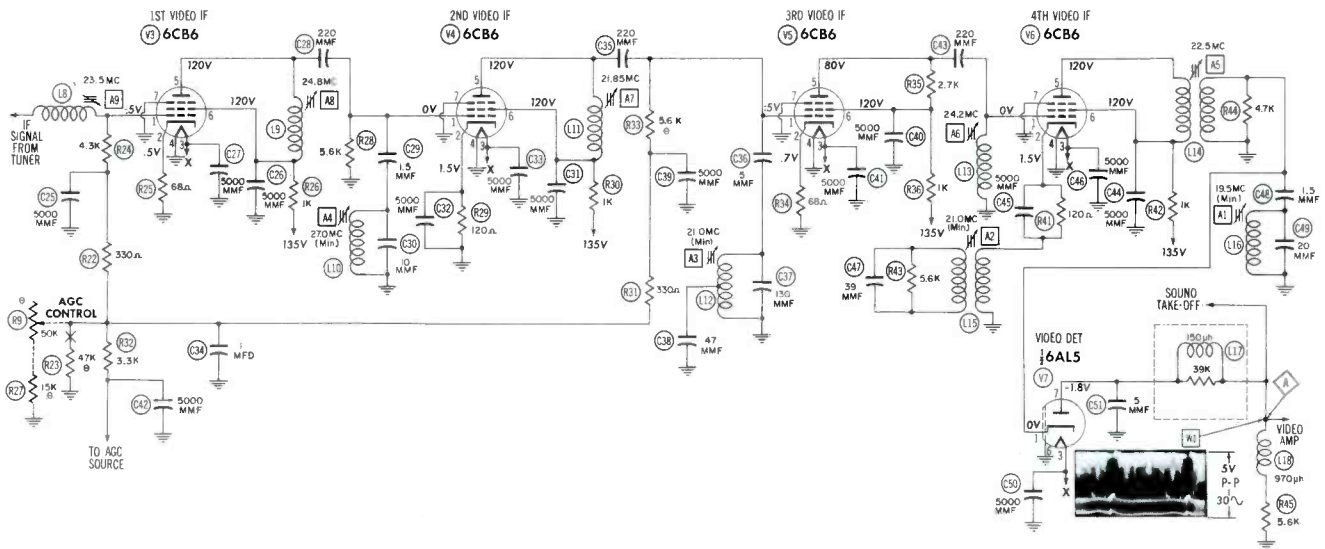

Fig. 2. Video IF and Detector System Which Employs a Diode Detector and Capacitive Coupling Between Stages.
- d. Leaky coupling capacitor between IF stages. (See C28, C35, C43 in Fig. 2.)
The distorted waveforms in Figs. 5B and C were caused by grid current drawn in the last IF stage. (Refer to the schematic shown in Fig. 2). Grid current is caused to flow when the bias of a stage is such that the incoming signal drives the grid positive and can be a result of improper bias or excessive driving